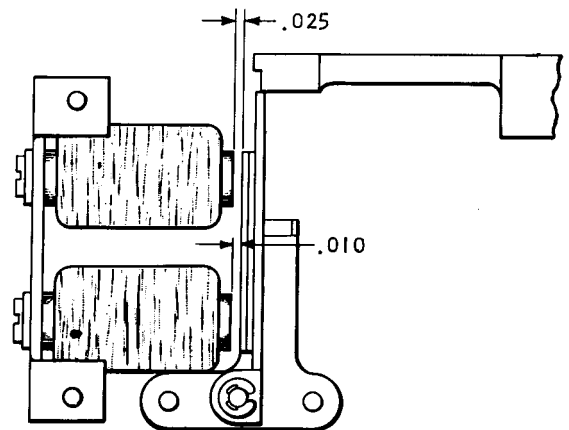

Figure 32. Clutch Magnet Core Clearance
6. Adjust the magnet assembly for .010" clearance between the armature and core nearest the pivot and .025" between the armature and core farthest from the pivot when the armature is latched (Figure 32). This adjustment should give .003" to .005" clearance between the armature and core nearest the pivot when the armature is attracted.